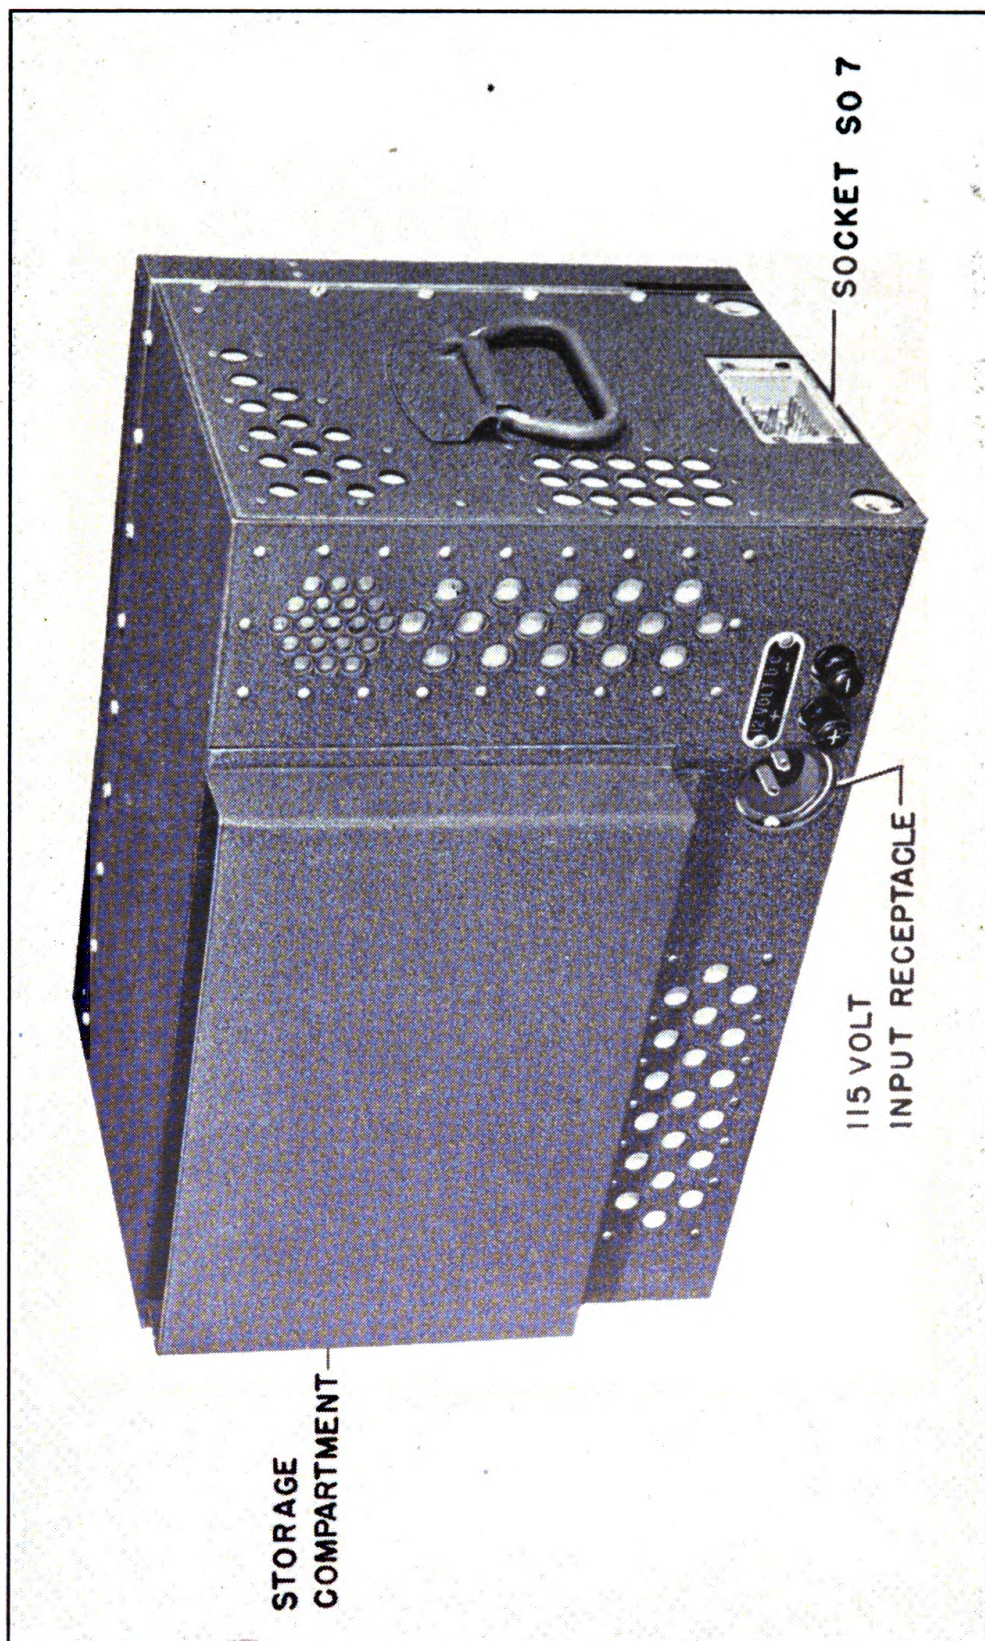

Figure 2—Signal Generator I-208, rear view
d. Output: Output voltage up to 100,000 microvolts is developed at the termination of a 30-ohm line. This output is controlled and measured by a calibrated attenuator, multiplier, and vacuum tube voltmeter. Output signal voltage, up to .84 volt, is delivered through the high output terminal and the high output cable which is stored in a compartment at the rear of the signal generator (figure 2). This output is controlled by a potentiometer and measured by the vacuum tube voltmeter.
(1) Remove the high output cable (Cord CD-749) from the compartment at the rear of the signal generator (figure 2).
(2) Unscrew the knurled cap from the HIGH OUTPUT terminal.
(3) Connect the cord and tighten the knurled fitting of the 100-ohm line to the HIGH OUTPUT terminal.
(4) Connect the other end of the 100-ohm line to the radio receiver to be checked, using the phantom antenna recommended in the alignment procedure of the radio receiver. See paragraph 6a(6).
(5) Adjust the R.F. OUTPUT CONTROL for the output voltage wanted. The output voltage is approximately .7 volt when the meter pointer is at 1.0. For example, if an output of 350,000 microvolts is wanted, set the meter pointer to .5 by means of the R.F. OUTPUT CONTROL. **THE MICROVOLTS CONTROL AND THE MULTIPLY BY SWITCH MUST NOT BE USED WITH THE HIGH OUTPUT CABLE.**